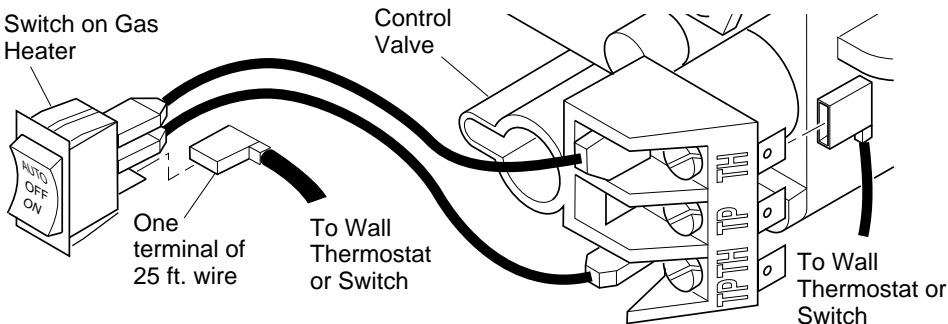

Figure 31 - Connecting Wire Terminals
1. Connect one terminal of 25 ft. wire to bottom contact of switch (see Figure 31, page 17).
2. Connect remaining wire terminal to the "TH" terminal on the control valve. Make sure that wire terminals are in the positions on your unit as pictured in Figure 31 on page 17. If wires are not "crossed" the thermostat will not work.
1. Connect one terminal of 25 ft. wire to bottom contact of switch (see Figure 31).
2. Connect remaining wire terminal to the "TH" terminal on the control valve. Make sure that wire terminals are in the positions on your unit as pictured in Figure 31. If wires are not "crossed" the thermostat will not work.